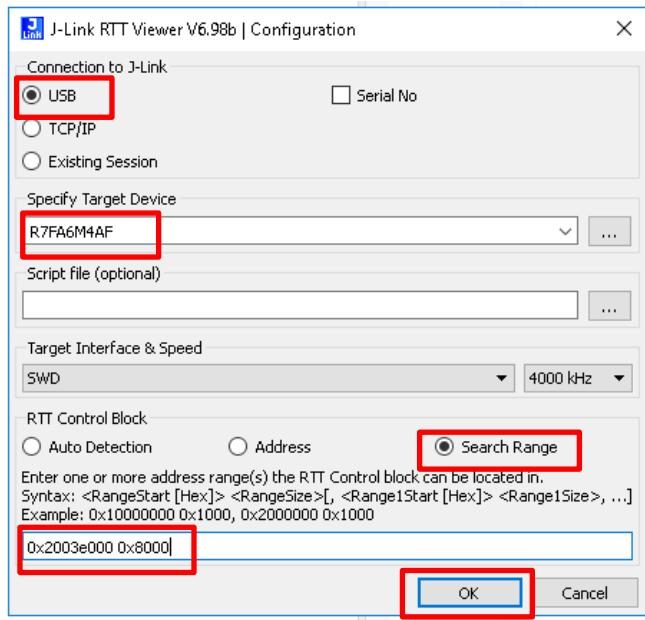

Figure 17. Configure the RTT Viewer
6. Open the J-Link RTT Viewer and set up the same configuration as Figure 17.
6. Open the J-Link RTT Viewer and set up configuration similar as Figure 17 except change the search range to 0x20000000 0x8000.